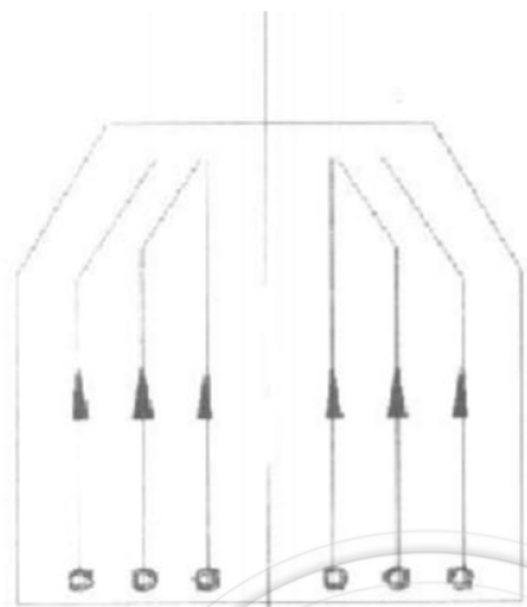

图 2 6 颗 M5 螺母在筛面上的走向
1) test whether the screen surface swings (i.e. the inclination and levelness of the screen surface). As shown in Figure 2, place 6 M5 nuts evenly at the lower end of the second screen surface of the stone remover. When placing, ensure that the 6 nuts are in the same position